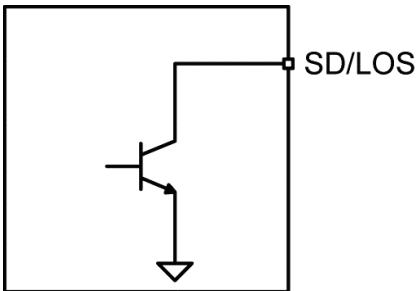

Figure 4. SD/LOS Output Structure
The SY88063CL generates a user-selectable (SD/LOS_SEL pin) signal detect (SD) or loss-of-signal (LOS) open-collector TTL output, as shown in Figure 4. LOS is used to determine whether the input amplitude is too small to be considered as a valid input. LOS asserts high if the input amplitude falls below the threshold set by